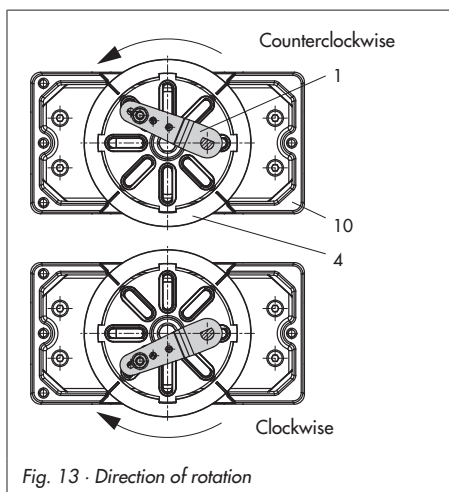

Fig. 13 · Direction of rotation
8. Place positioner on housing (10) and screw it tight. Considering the actuator's direction of rotation, align lever (1) so that it engages in the correct slot of the coupling wheel with its follower pin (Fig. 13).